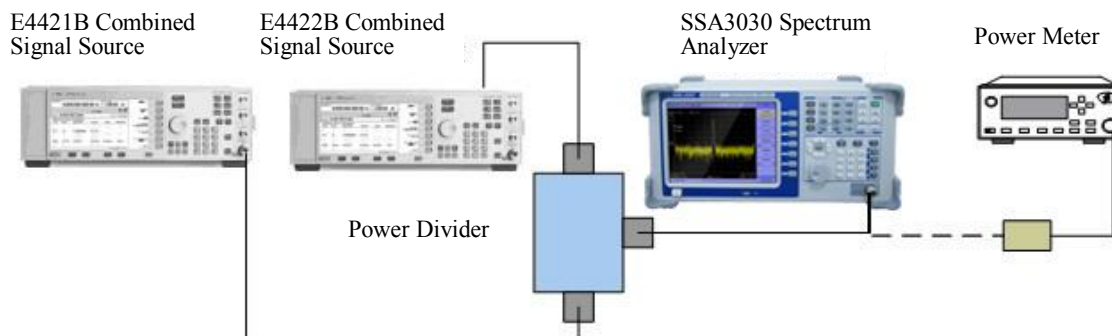

Fig. 6-7 Test Connecting Diagram of Mixer Conversion Compression
The testing block diagram is shown in Fig. 6-7.
- (1) Refer to the operation manual of power meter, zero adjust and calibrate the power meter and power probe in the logarithmic form.
- (2) Connect the equipment as shown in Fig. 6-7, connect the power probe to combination S-port of power divider. E4421B and E4422B are connected to P1 and P2 ports of power divider respectively.
- (3) Rest E4421B and E4422B combined signal generators and SSA3030 spectrum analyzer.
- (4) Set the frequency of E4421B to 1.203GHz and its power level of -10 dBm.
- (5) Set the frequency of E4422B to 1.2GHz and its power level of -20 dBm.
- (6) Set SSA3030 as follows: